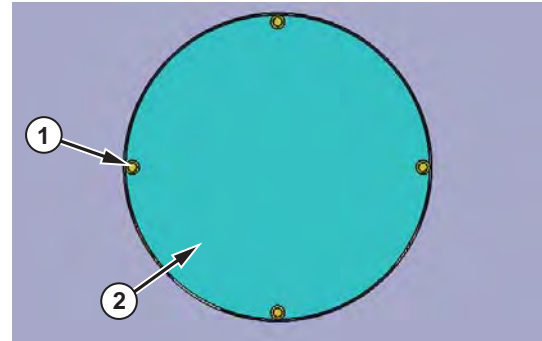

Figure 9 Bottom of Track Frame EX1403118
12. Remove bolts (1, Figure 9) (4 ea) with under covers (2) from frame.